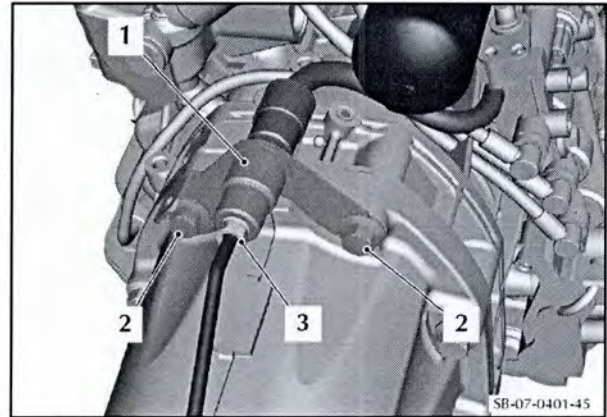

Figure 45
- 87. Put the new bracket assembly (1) for the transmission tube in position. Align the bracket with the two remaining holes in the torque tube (refer to Figure 45).
- 88. Install the last two bolts (2) that attach the transaxle to the torque tube.
- 90. Connect the tube assembly for the concentric slave cylinder (3) to the bracket assembly (1).